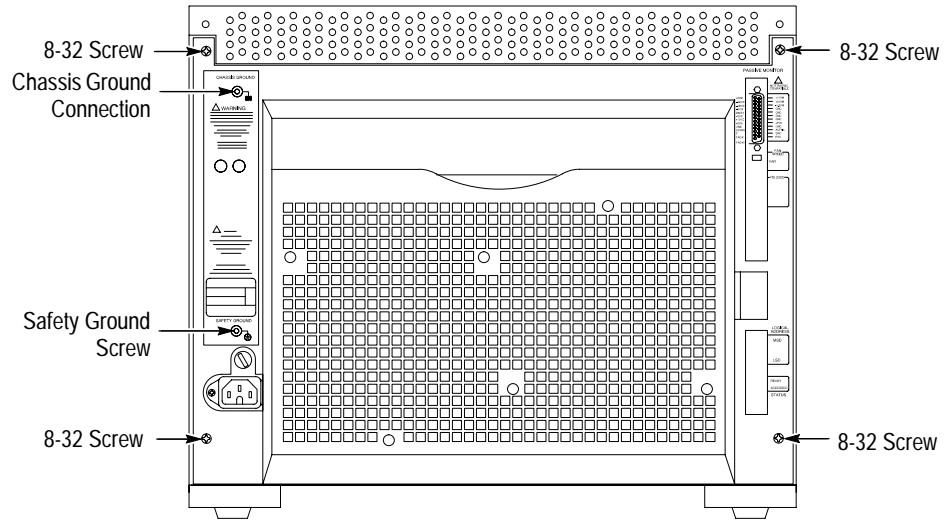

Figure 1: Location of Fan Assembly and Ground Screw on the Rear of Mainframe
To remove the fan assembly, refer to Figures 1 and 2 and follow these steps:
3. From the rear of the mainframe, use a Torx with a T-10 driver to remove the four 8-32 screws (refer to Figure 1 for the screw locations).
To reinstall the fan assembly, refer to Figures 1 and 2, and follow these steps:
5. Use a Torx with a T-10 driver to install the four 8-32 screws (refer to Figure 1 for the screw locations).